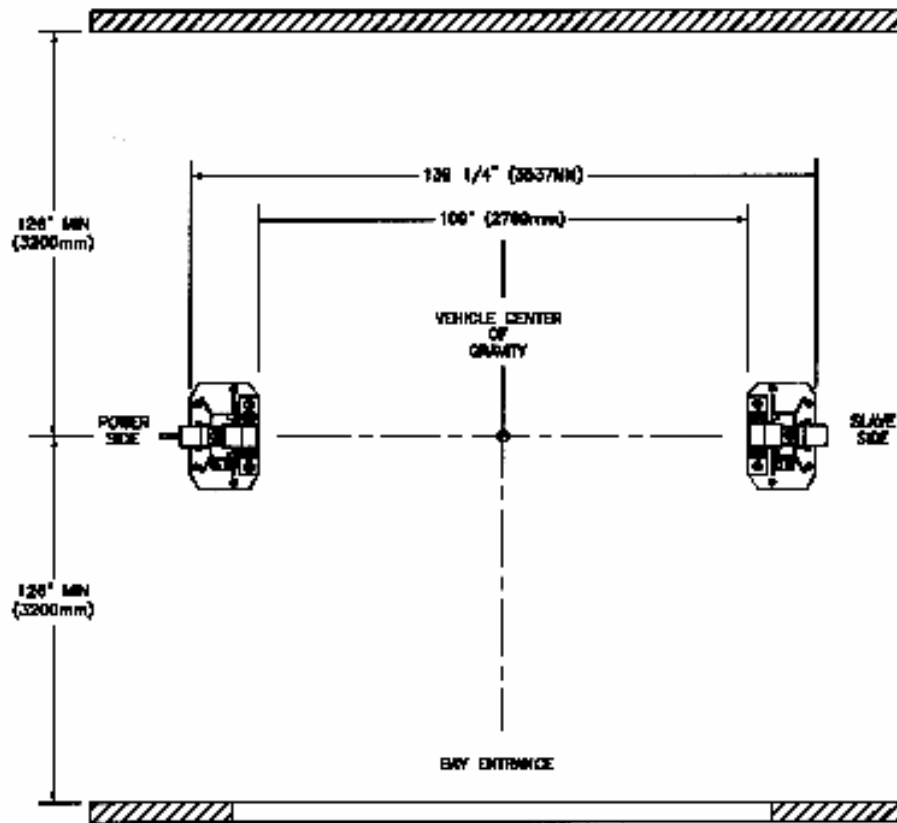

Figure 3 – Bay Layout
7. Prepare the bay by selecting the location of the lift relative to the walls. Clear the installation area of all packaging materials to avoid trip hazards. Draw a chalk line on the floor to represent the centerline of the bay then draw a second chalk line at 90° for locating the lift towers. Refer to **Figure 3**.
1. Locate the power side and slave side towers and position them as shown in **Figure 3**. Double check all the dimensions in the layout.
3. Check the towers to make sure they are located, and positioned in the correct location. Refer to **Figure 3**.